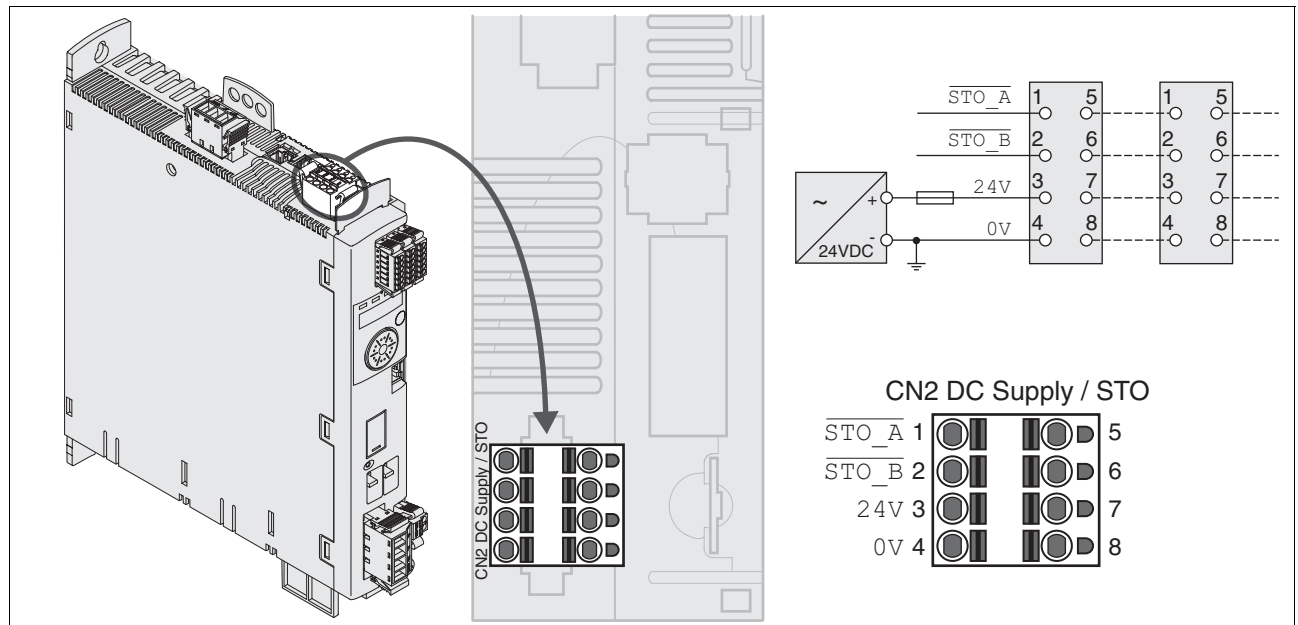

Figure 6.18 Wiring diagram controller supply voltage
- Connection CN2, pins 3 and 7 as well as CN2, pins 4 and 8 (see Figure 6.18) can be used as 24V/0V connections for additional consumers.¹ Note the maximum permissible terminal current ("Properties of spring terminal CN2").